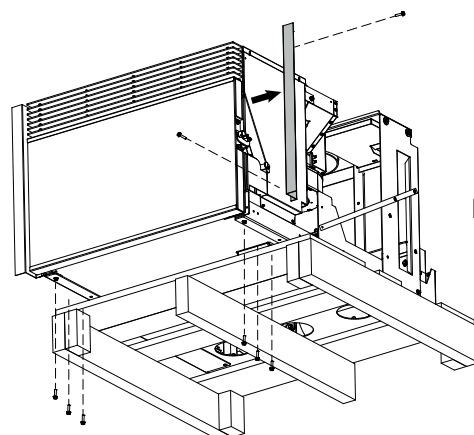

Fig. 6.1.4
5. Unscrew the six locking bolts of the guides positioned on the bottom of the machine and remove the right side strip (Fig. 6.1.4).
17. Replace the right side strip that had previously been removed (Fig. 6.1.4).